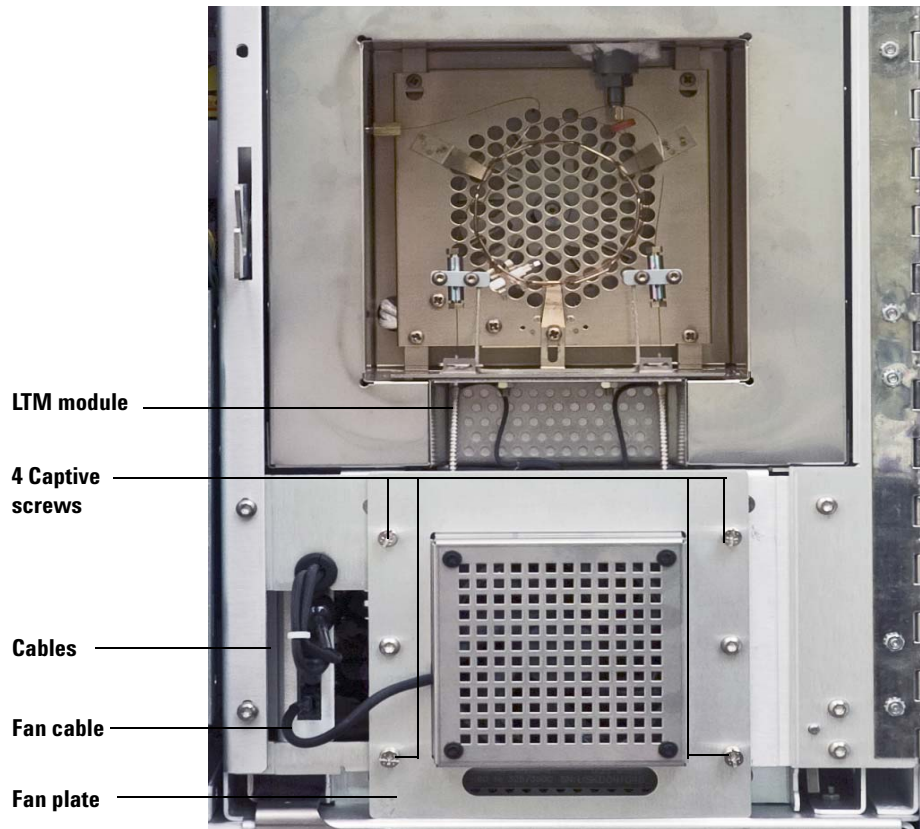

Figure 12 LTM module installed on the 5975T
- 7** Loosen the four captive screws around the outside of the fan plate. See Figure 12.